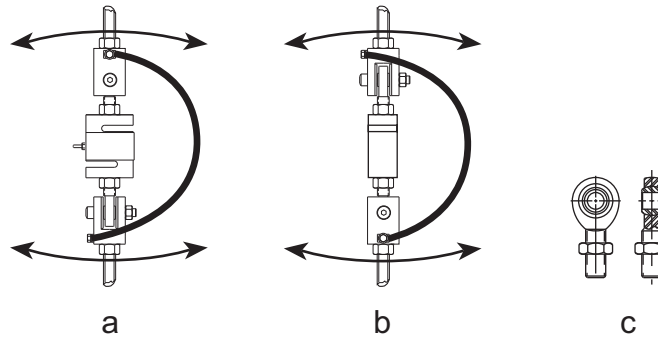

Figure 11-2. ITCM Weigh Module
Figure 11-2 illustrates the use of the ITCM weigh module. This mounting arrangement prevents most of the potential problems caused by extraneous forces acting on S-beam load cells.
- The ITCM consists of a high-precision rod end ball joint which is screwed into each end of the S-beam. The rod end ball joint has a “ball” which is free to rotate in a PTFE bearing; see Figure 11-2(c). A clevis is attached to the rod end ball joint using a shoulder screw. The rod end should be threaded into the load cell ensuring contact with all threads, without touching the main body of the S-beam.